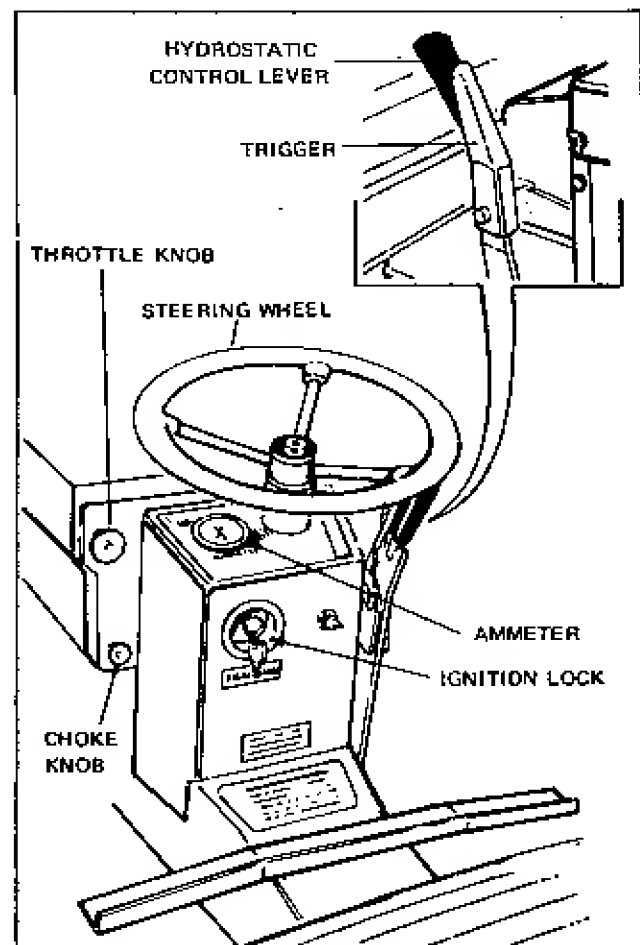

Figure 9
2. Move the hydrostatic control lever to neutral position. See Figure 9. (Note: The engine will not start if this lever is not in neutral).